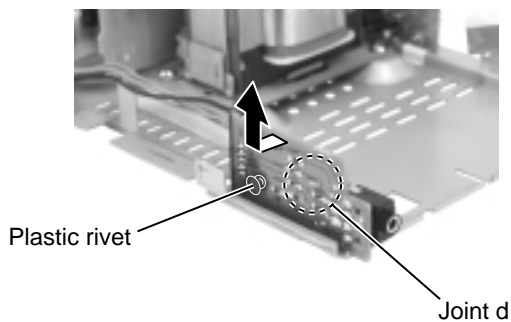

Fig.13
■ Removing the head phone board (See Fig.13)